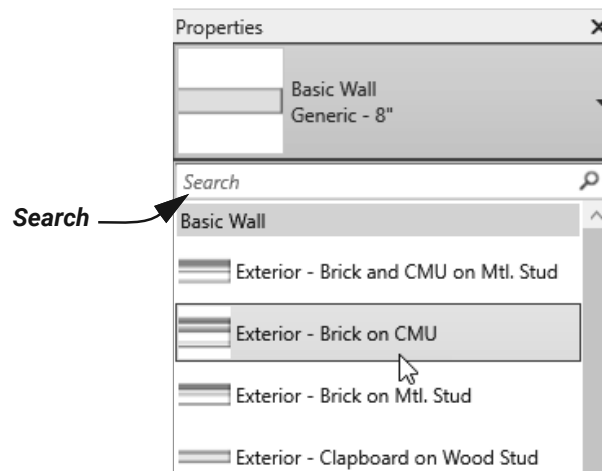

Figure 7–9
3. In Properties, set the *Cross-Section* to **Vertical**, **Slanted**, or **Tapered**, depending on the wall you need to create, as shown in Figure 7–10. Specify the Properties and Type Properties as needed. If this is not set at the beginning of drawing a wall, the last cross-section used will be the default.